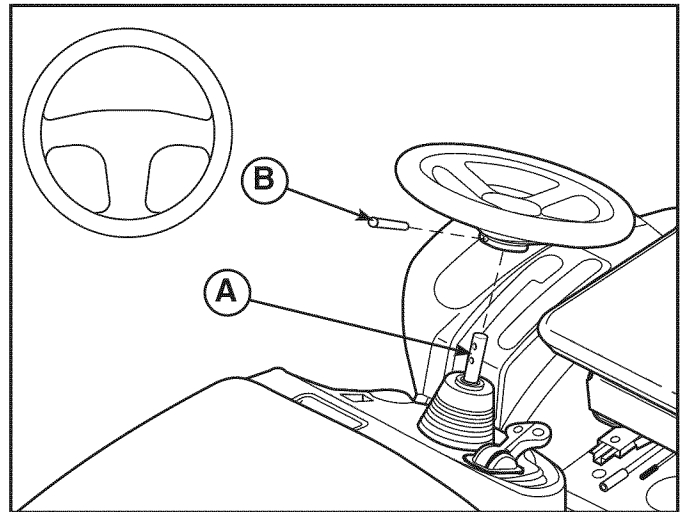

FIGURE 13
1. Use a suitable punch to remove the roll pin at the base of the steering wheel (**B**, Figure 13).